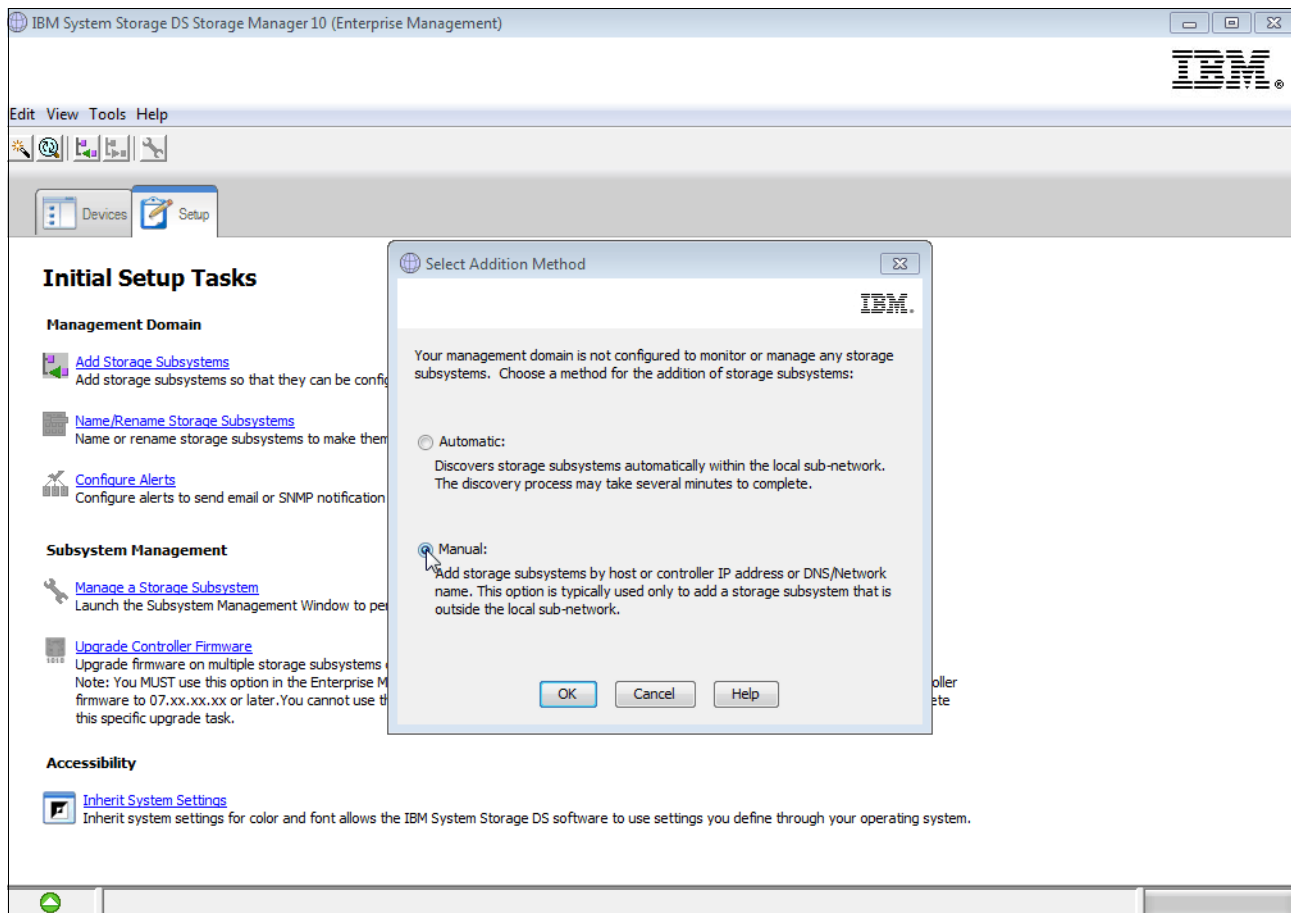

Figure 2-6 Selection of Automatic or Manual discovery
6. After finishing the installation, launch the IBM System Storage DS Storage Manager 10 from the appropriate location, depending on your operating system (OS).
7. When you have launched the IBM System Storage DS Storage Manager 10, you see the panel in Figure 2-6. You need to select **Manual** if you are going to define the IP address. Else, you can do an **Automatic** scan and let the storage scan the subnet and scan the fibre path.